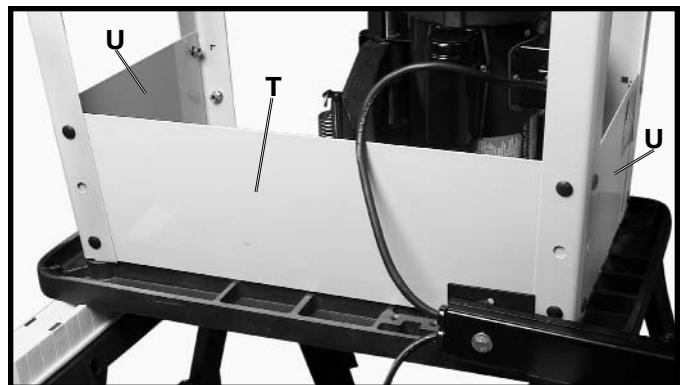

Fig. 4
2. Assemble back panel (T) and two side panels (U) to the inside of the four legs, as shown in Fig. 4. Align the holes in the back panel and the side panels, with the holes in the legs. Insert a 5/16-18x5/8" carriage head bolt through the hole in the leg and the hole in the panel. Place a 5/16" flat washer onto the carriage head bolt, place a 5/16" lock washer onto the carriage head bolt, thread a 5/16-18 hex nut onto the carriage head bolt and tighten securely. Repeat this process for the 11 remaining holes in the panels and legs. **NOTE: Firmly tighten all leg and panel mounting hardware.**